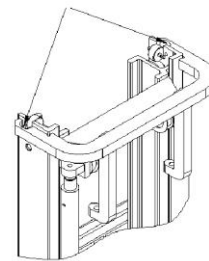

figure 2-75
- (1) Hoisting directions for lifting system see figure 2-75